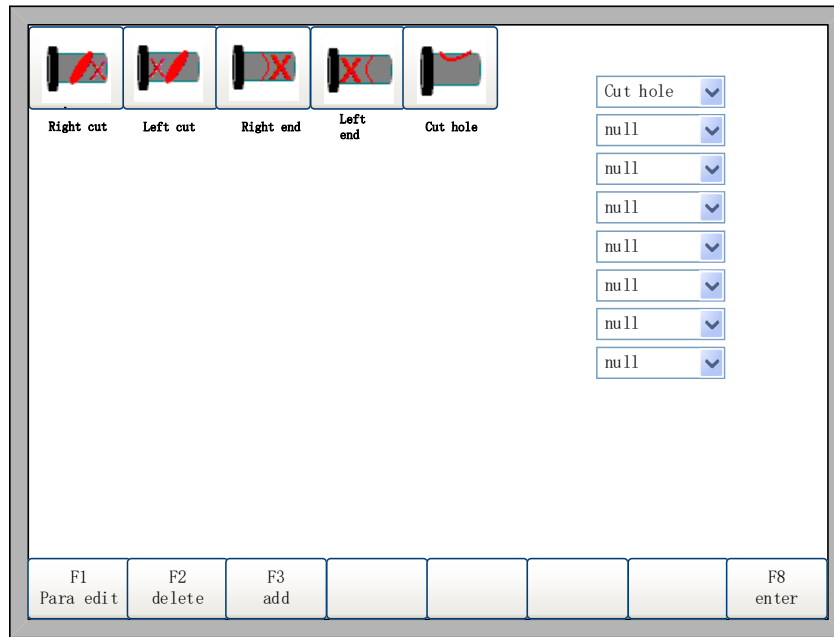

Fig16.3 Graphics library interface
Under the main interface, press **【F1】** to enter the tube graphics library interface, as shown in Figure 16.3.
In Figure 16.3, undergraphics library interface, press [↑], [↓] to select the end of the parameter to be set, and then press 【F1】 to display the corresponding parameter editing interface.
- Pipe Diameter 1: The outer diameter of the cut pipe, 1 on the schematic, which can only be set in the type of terminal selected in the first drop-down box in Figure 16.3. Unit: mm
- Pipe wall thickness 2: The wall thickness of the cut pipe, 2 on the diagram. This parameter can only be set in the type of terminal selected in the first drop-down box in Figure 16.3. Unit: mm
- Branch pipe1: The outer diameter of the cut pipe, 1 on the diagram. This parameter can only be set in the terminal type selected in the first drop-down box in Figure 16.3. Unit: mm
- Branch pipe2: The wall thickness of the cut pipe, 2 on the diagram, which can only be set in the type of terminal selected in the first drop-down box in Figure 16.3. Unit: mm
- Mother pipe D3: The outer diameter of the cut pipe, 3 on the schematic. This parameter can only be set in the type of terminal selected in the first drop-down box in Figure 16.3. Unit: mm
- Mother pipe T 6: The wall thickness of the cut pipe, 6 on the diagram. This parameter can only be set in the type of terminal selected in the first drop-down box in Figure 16.3. Unit: mm